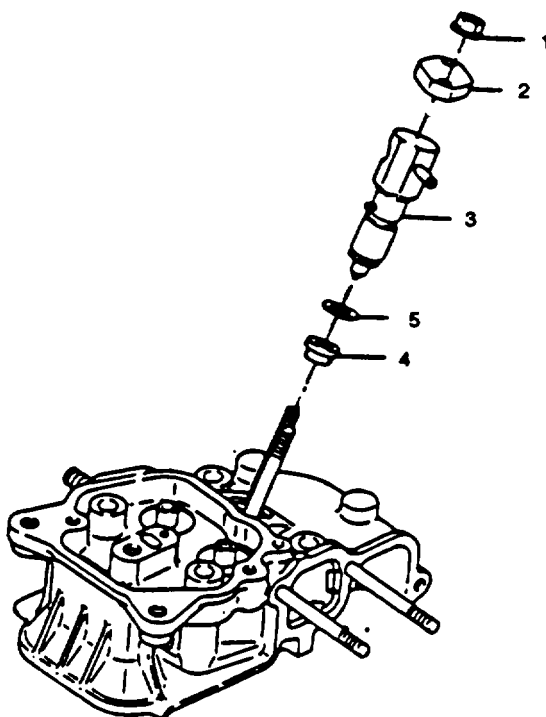

Figure 5-6. Replace Fuel Injection Nozzle
- a. Removal. (Refer to Figure 5-6)